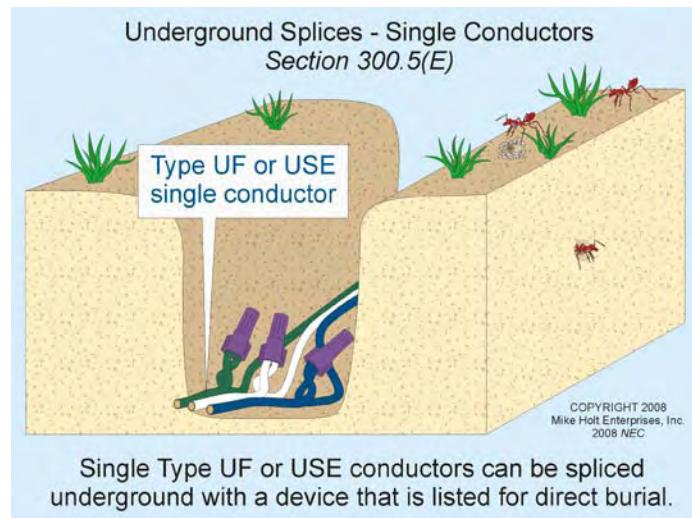

Figure 300-13
(4) Enclosure or Raceway Damage. Where direct-buried cables, enclosures, or raceways are subject to physical damage, the conductors must be installed in rigid metal conduit, intermediate metal conduit, or Schedule 80 PVC conduit.
(E) Underground Splices and Taps. Direct-buried conductors or cables can be spliced or tapped underground without a splice box [300.15(G)], if the splice or tap is made in accordance with 110.14(B). **Figure 300-13**